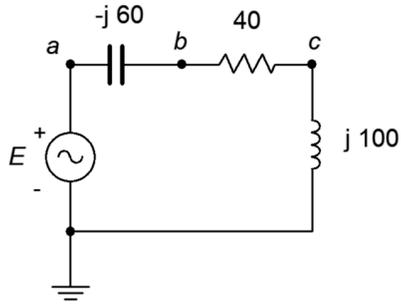

Figure 7.4
4. For the circuit shown in Figure 7.4, determine apparent power  $S$ , real power  $P$ , reactive power  $Q$  and power factor  $PF$ . Also, draw the power triangle. The source is 120 volts.